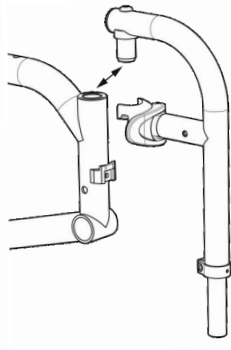

Fig. 4b
- Lift the assembly up (Fig. 4b) so as to disconnect it from the wheelchair's frame.